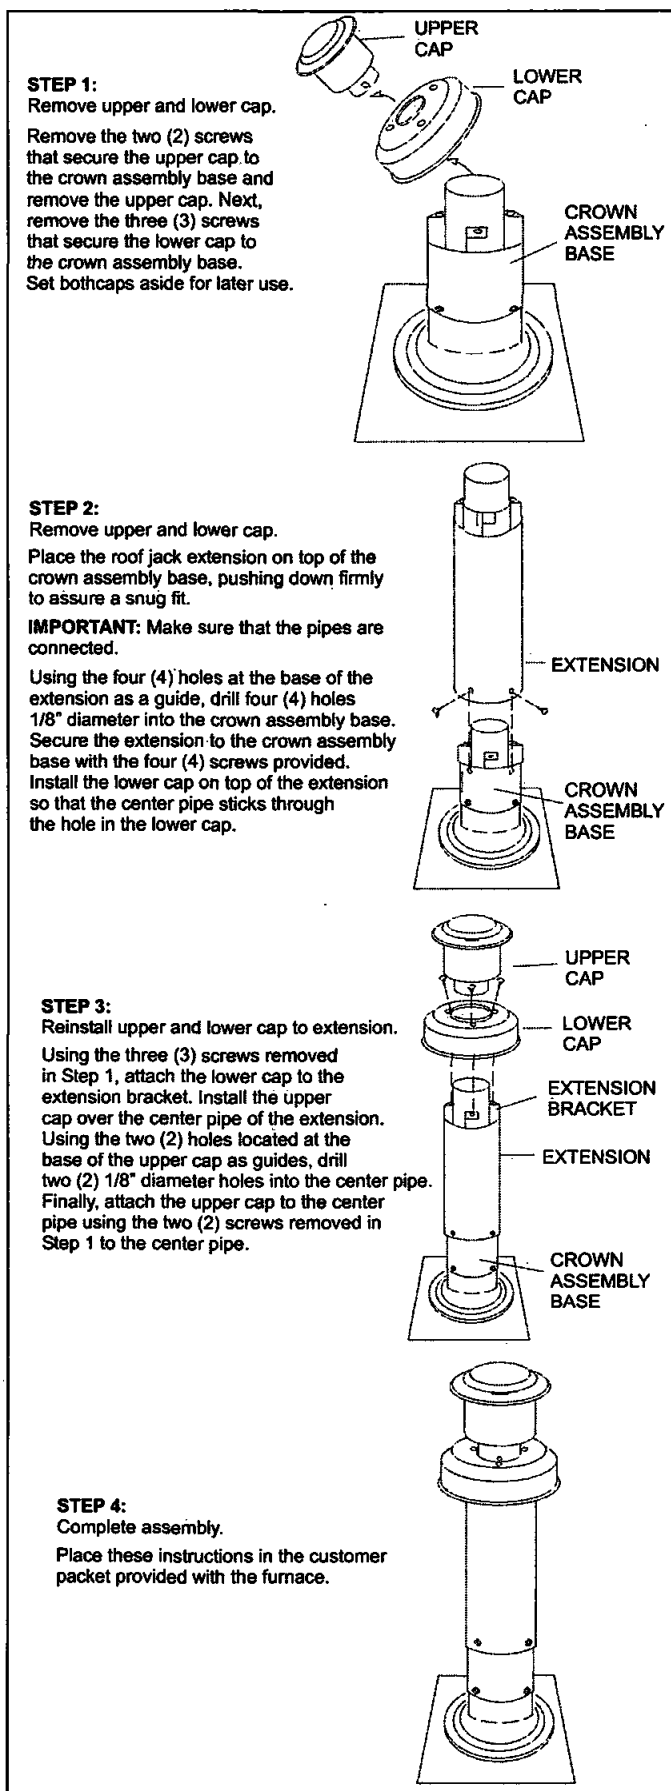

FIGURE 22: Roof Jack
1. Install Exterior Roof Jack Extension, if applicable. Refer to installation instructions provided with Exterior Roof Jack Extension. Refer to Figure 22.